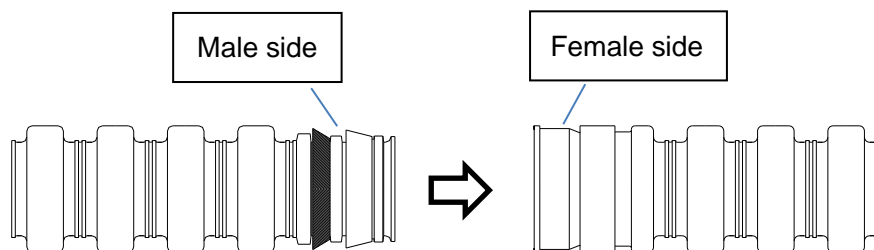

Fig.1
- 1) Cut off the male and female side and joint it together (Fig.1).